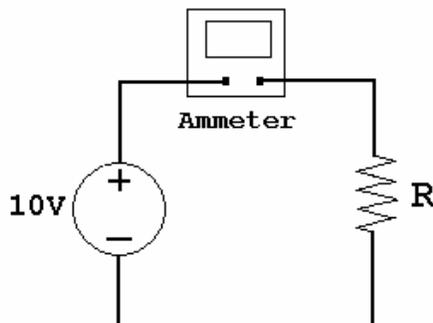
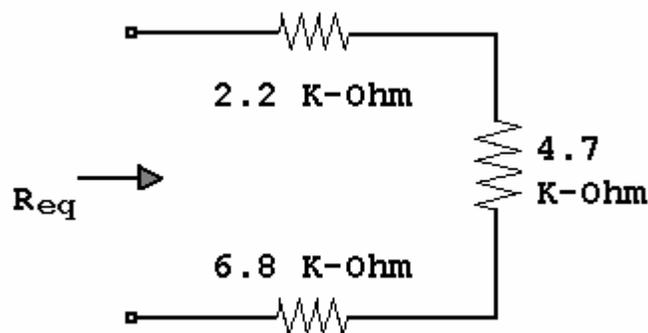
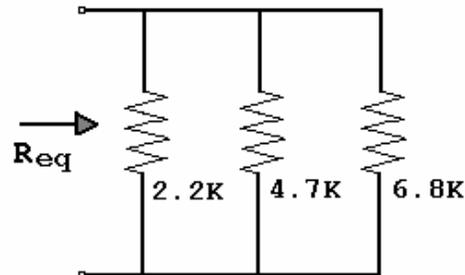

Figure 1: Current Measurement
Figure 2: Series Resistors
Figure 3: Parallel Resistors
Set up the DMM as a voltmeter (**not** Figure 1). Turn on the power supply and adjust the output to 10 Volts (DC). Measure the output with the DMM and record this voltage in Table 3. Calculate* the meter's tolerance for this voltage and record it in Table 3.
Connect the circuit in Figure 1 for each resistor and use the DMM as an ammeter (AM) to record current. Calculate* the meter's tolerance for this current measurement. From these voltage and current measurements and their tolerances, calculate the circuit's resistance as v / i and tolerance using the method described in the Section 2. Determine the minimum and maximum circuit resistance for these meter readings. **Record these measurements in Table 3.**
Connect the circuit in Figure 2.
Connect the circuit in Figure 1, BUT substitute the series circuit in Figure 2 for R. Use the DMM as the ammeter. Record the current in Table 5. Calculate the meter's tolerance for this current measurement and record in Table 5. From these voltage and current measurements and their tolerances, calculate the circuit's resistance, the
Calculate the nominal equivalent resistance, tolerance (5%), minimum and maximum circuit resistance for the circuit shown in Figure 3, and record in Table 6.
Connect the circuit in Figure 1, BUT substitute the parallel circuit in Figure 3 for R and use the DMM as the ammeter to measure the current. Calculate the meter's tolerance for this current measurement. From these voltage and current measurements and their tolerances, calculate the circuit's resistance, the tolerance on this calculated resistance, and the minimum and maximum circuit resistance for these meter readings. Record these measurements in Table 7.